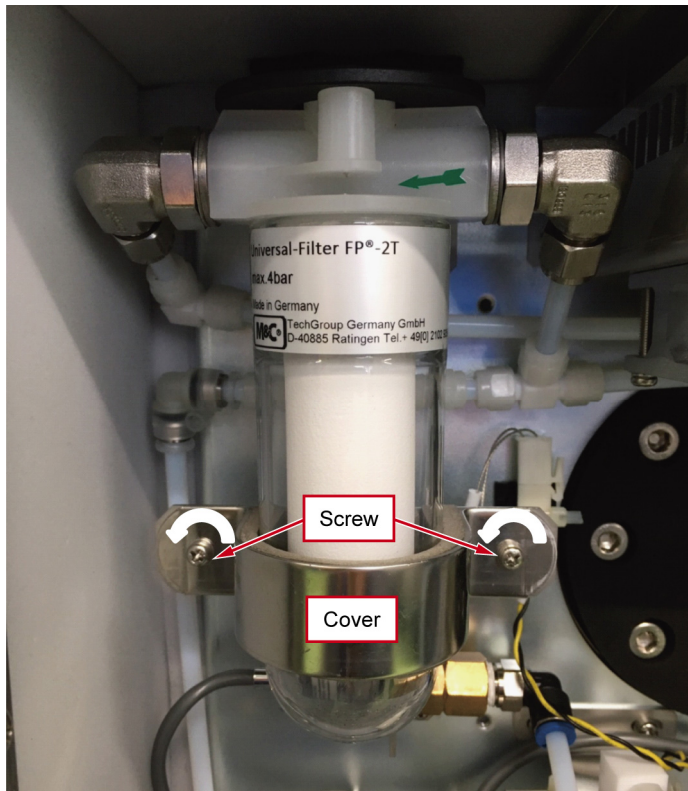

Fig. 8-3
2. Loosen the two screws shown in Fig. 8-3, and then remove the cover.
7. Rotate the clamp and new filter element in the opposite direction to that in step (4), and screw in tightly.
8. Rotate the filter glass in the opposite direction to that in step (3), and screw in tightly. Tighten until the glass contacts the filter unit and stops rotating.
9. Tighten the two screws shown in Fig. 8-3, and reattach the cover (tightening torque: 1.5 N·m).